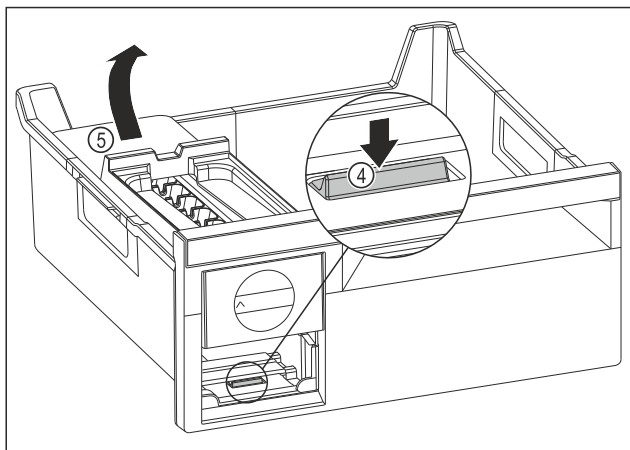

Fig. 86
- Removing the EasyTwist-Ice body: Use your finger to push the tab Fig. 86 (4) down and use your other hand to lift the EasyTwist-Ice body Fig. 86 (5) from behind at the same time.